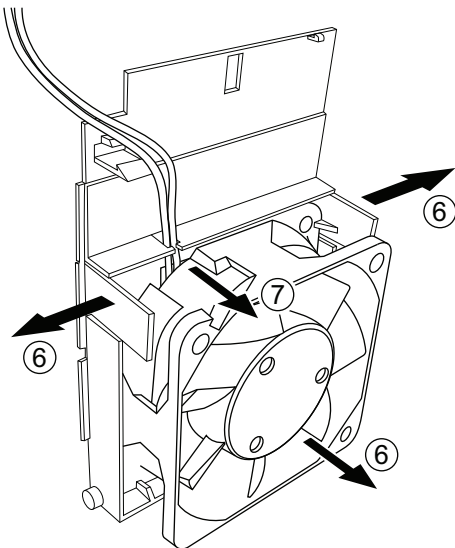

Fig. 53 — Remove Fan from Holder
6. Free the fan cable from the clip in the fan holder (see Fig. 53).
7. Remove the fan from the holder (see Fig. 53).